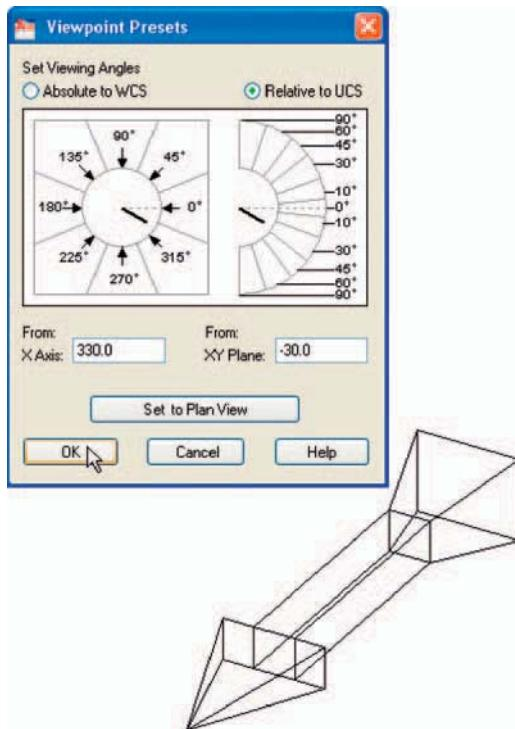

Fig. 14.35 Example – Viewpoint Presets
3. Using the **Viewpoint Presets** dialog called with a *click* on view names in the **View/3D Views** drop-down menu (Fig. 14.35).
- The 3D model takes up the viewing position indication by the two angles (Fig. 14.35).